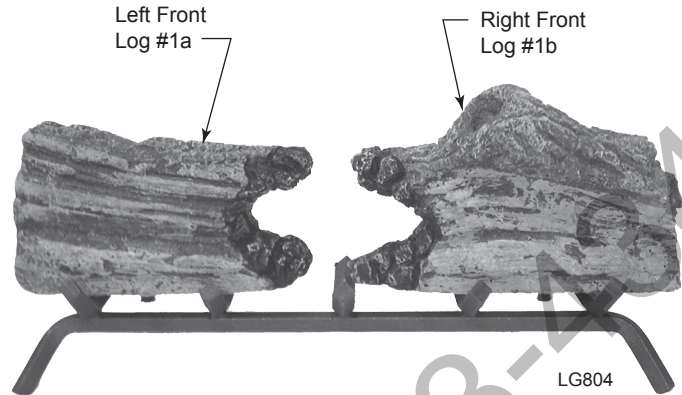

Figure 35 - Place Left Front Log #1a and Right Front Log #1b
1. Place Left Front Log #1a on front left of grate. *Figure 35*
2. Place Right Front Log #1b on front right of the grate. *Figure 35*